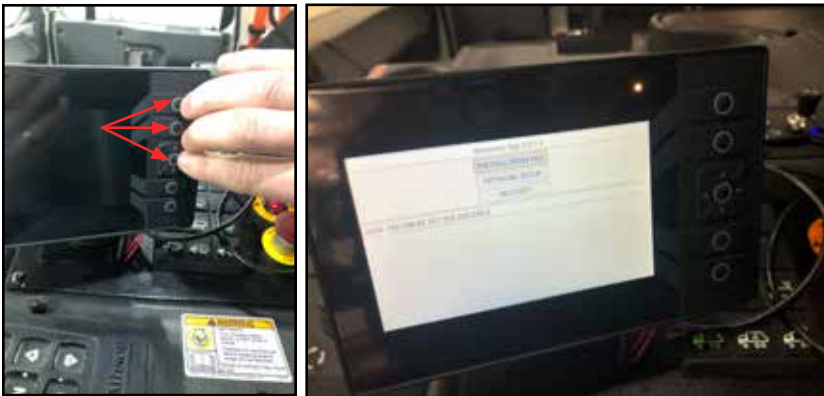

Figure 14
5. Press and hold all three buttons on the display at the same time, then turn the key on, but do not start the truck. Continue holding the three buttons until the installation page populates on the display. See Figure 14.